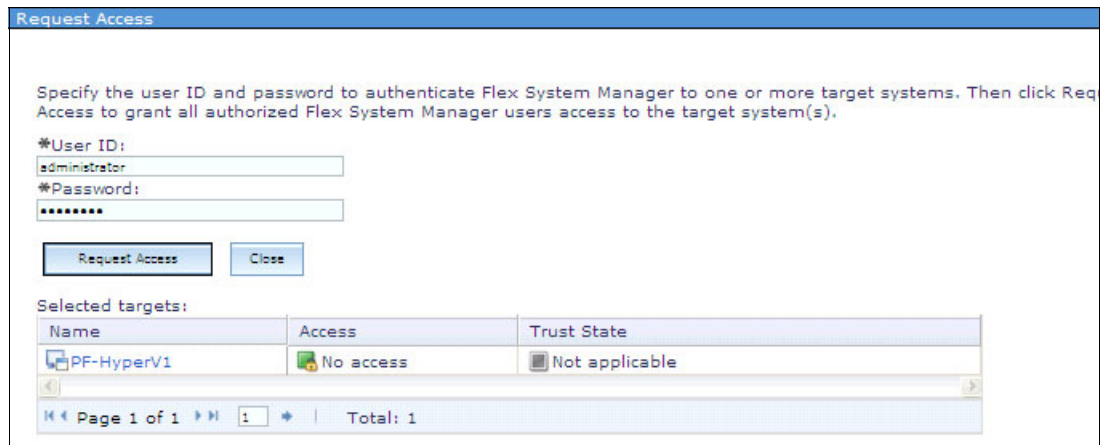

Figure 12-6 Request access to Hyper-V node
1. Find your server in the Resource Explorer, and click **No Access** (Figure 12-6).